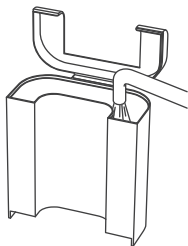

Fig. 32
1. Fill the Water Tank with fresh water but not beyond the MAX Fill Line. (Fig. 32)